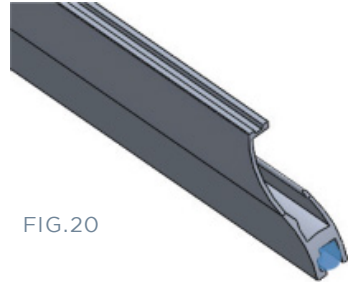

FIG.20
- Place a generous bead of silicone in the underside groove of the sliding door track (FIG 20).